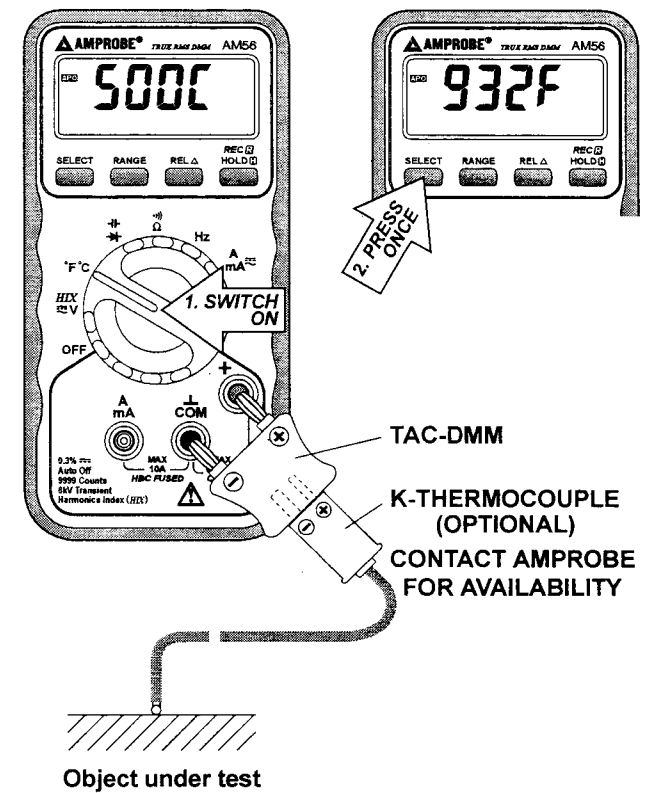

FIG 4. TEMPERATURE FUNCTION
- 4) Touch the end of the thermo probe to the measurement surface and observe the digital display, see **FIG 4**